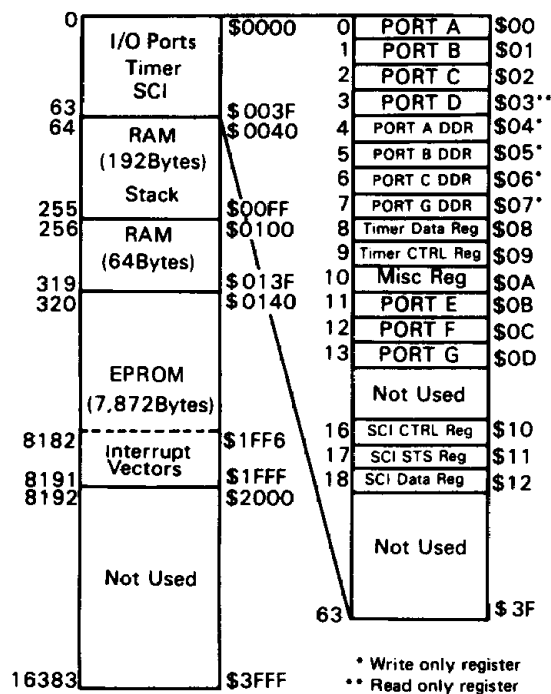
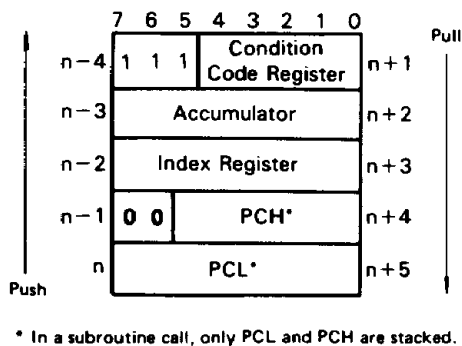

Figure 4 Memory Map of HD63P05Y0 MCU
Figure 5 Sequence of Interrupt Stacking
The memory map of the HD63P05Y0 MCU is shown in Fig. 4. During interrupt, the contents of the registers are saved in the stack as shown in Fig. 5. The saving begins with the lower byte (PCL) of the program counter. Then the stack pointer value is decremented, and the higher byte (PCH) of the program counter, index register (X), accumulator (A) and condition code register (CC) are stacked in this order. In subroutine calls, only the contents of the program counter (PCH and PCL) are stacked.